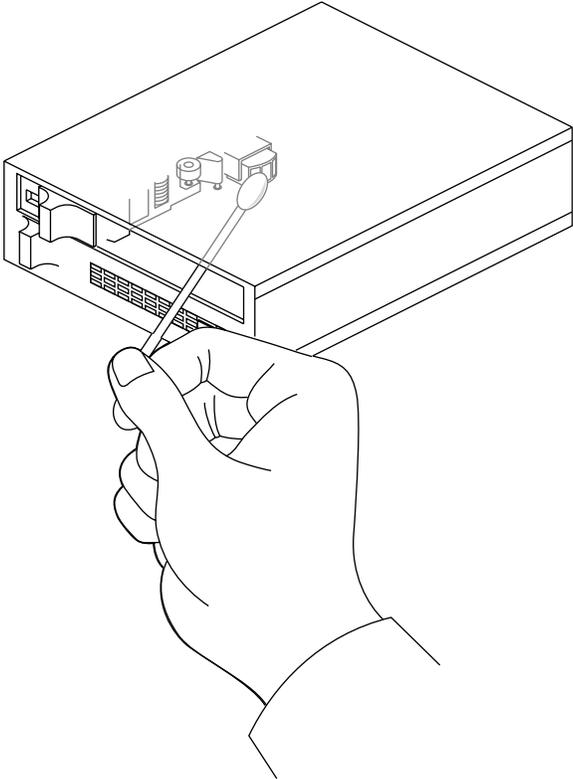

Figure B-5 Tape Head Cleaning
3. Dip a clean, non-fibrous cotton swab in tape head cleaning fluid and wipe the tape head (see Figure B-5).